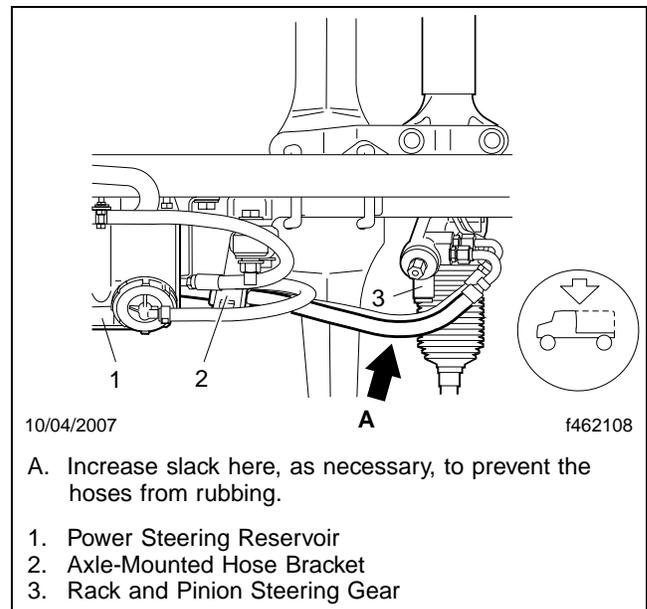
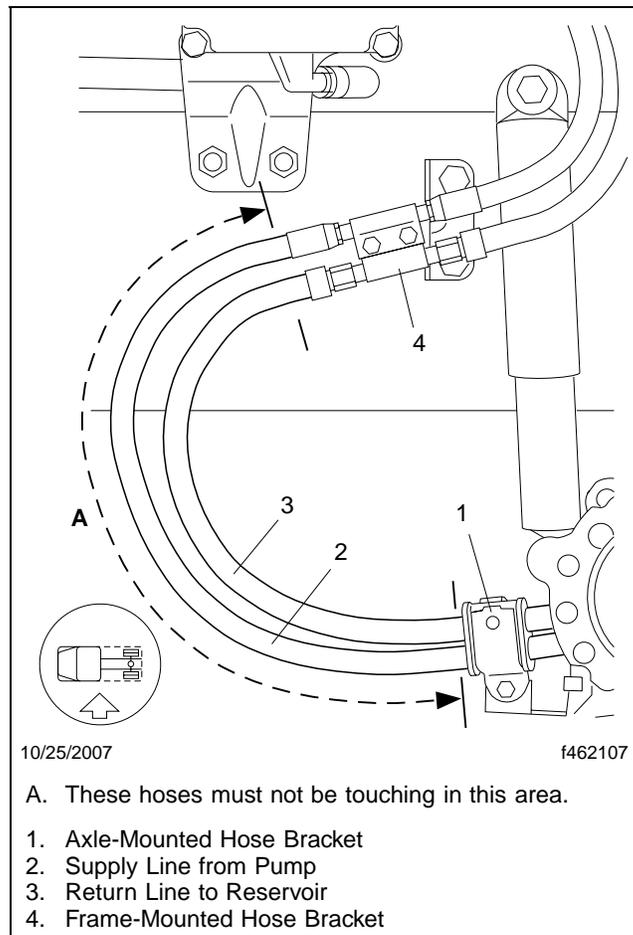

Fig. 7, View from Above
Fig. 8, Side View (fuel/water separator installed forward)
33. Include a little slack in the return line between the steering rack and the axle-mounted hose bracket (**Fig. 7**), to keep the hoses between the axle-mounted hose bracket and the frame bracket (**Fig. 8**) from rubbing together.